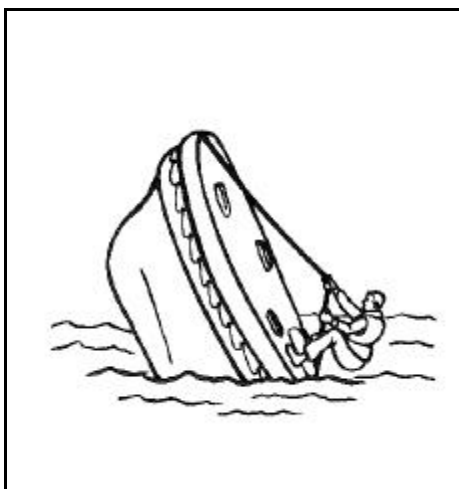

Figure 10-33. Standing On Edge
- Stand on the very edge, where the CO₂ cylinder is located. Lean back with all your weight while pulling on the righting strap (Figure 10-33, page 10-36).